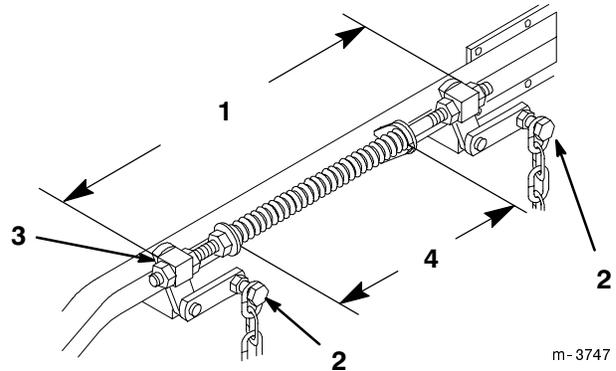

Figure 50
6. Loosen four (4) top chain bolts in slots. Check the length of the rod/swivel assemblies. Distance from outside of rear swivel to outside of front swivel should be 19-17/32" (496 mm) (Fig. 50). Make sure that all four swivels move freely in holes.
8. Lift up on four (4) top chain attachment bolts, in the slots, to take slack out of chains and tighten flange lock nuts. (Deck is still supported by two rear and one front blocks under mower.)
2. Springs are compressed so the distance between the two large washers should be 11" (279 mm) (Fig. 50).
3. Adjust by turning nut in front of each spring (Fig. 50). Clockwise will shorten spring; counter-clockwise will lengthen spring.